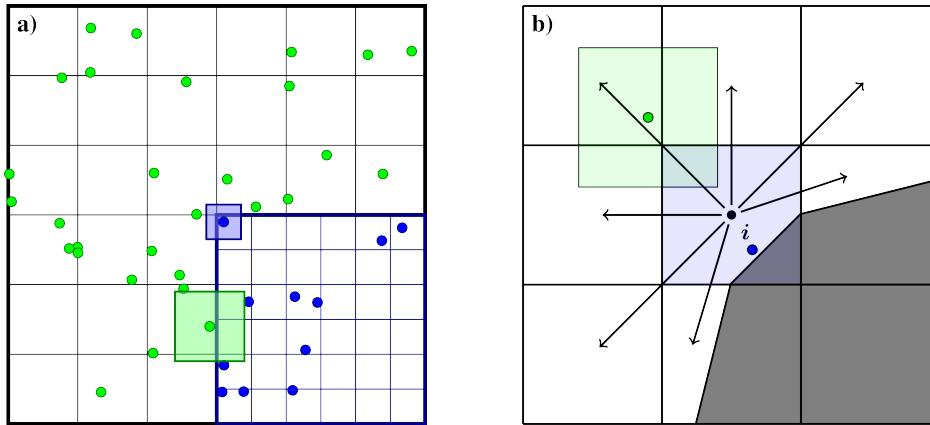

Fig. 3.4.1: Sketch of deposition schemes near refinement boundaries and cut-cells.
- `CoarseFineDeposition::Interp` This method permits the coarse-grid particles to deposit into the region underneath the fine grid. The deposited mass that falls underneath the fine grid is then interpolated from the coarse grid to the fine grid. For example, see the indicated coarse-grid particle cloud in the left panel Fig. 3.4.1. While this particle has a width given by the coarse-grid cell size, it will deposit into the coarse grid cells underneath the fine grid. The mass that ends up in these cells is interpolated to the fine grid, which in this case will inject mass into two layers of fine-grid cells.
- **CoarseFineDeposition::Halo** This method extracts the coarse-grid particles that live on the refinement boundary and deposit them with their original width on both the coarse and fine levels. This is done by first depositing the particles on the coarse level, and then transferring them to the fine level and redepositing them there with the original particle width. Taking the left panel in Fig. 3.4.1 as an example, the green particle will then deposit into the coarse-grid cell as well as the first layer of fine-grid cells.